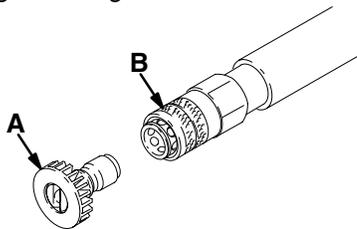

Fig. 3
4. Without holding your hand over the spray tip (A), pull back the quick coupler ring (B). Remove the current tip, install a different one, and push back the ring. See Fig. 3.